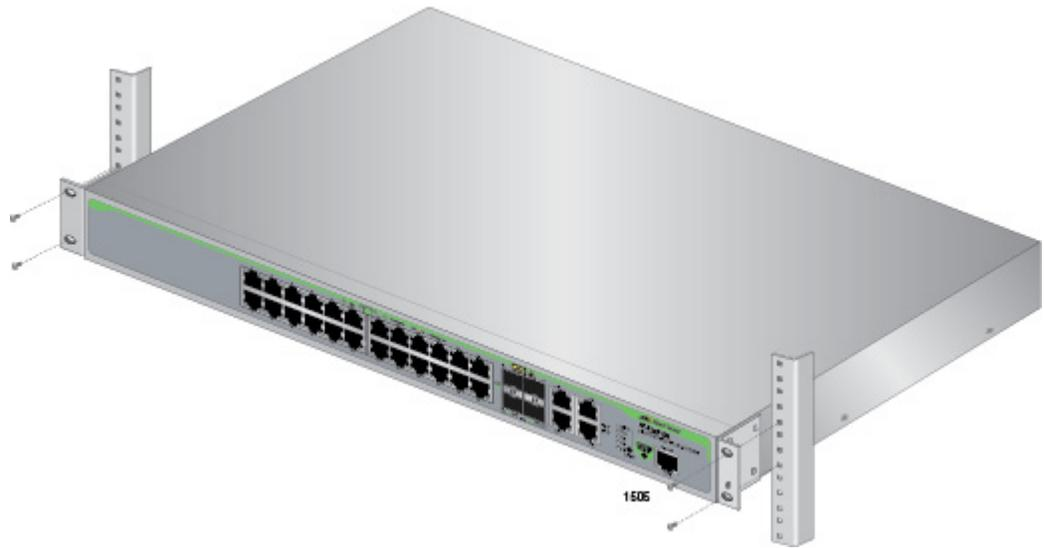

Figure 16. Mounting the Switch in a Rack
6. Mount the switch in the 19-inch rack using standard screws (not provided), as shown in Figure 16.